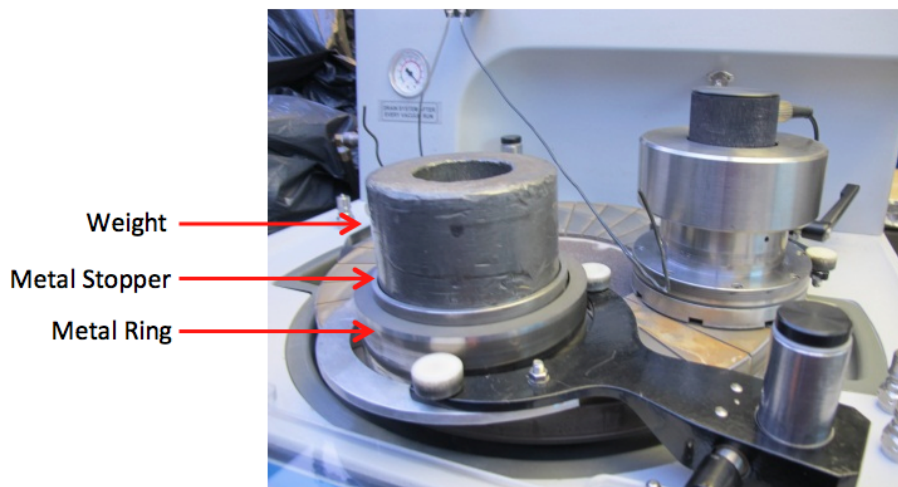

*Figure 2*
2. Place metal ring in the forward arm (Fig. 2 and 3).
- a. Place the billets around the outer edge of the ring (Fig. 2) with their number facing up. If there is a small billet it should be placed in the middle.
3. Fill in the empty space with filler rocks (Fig. 2).